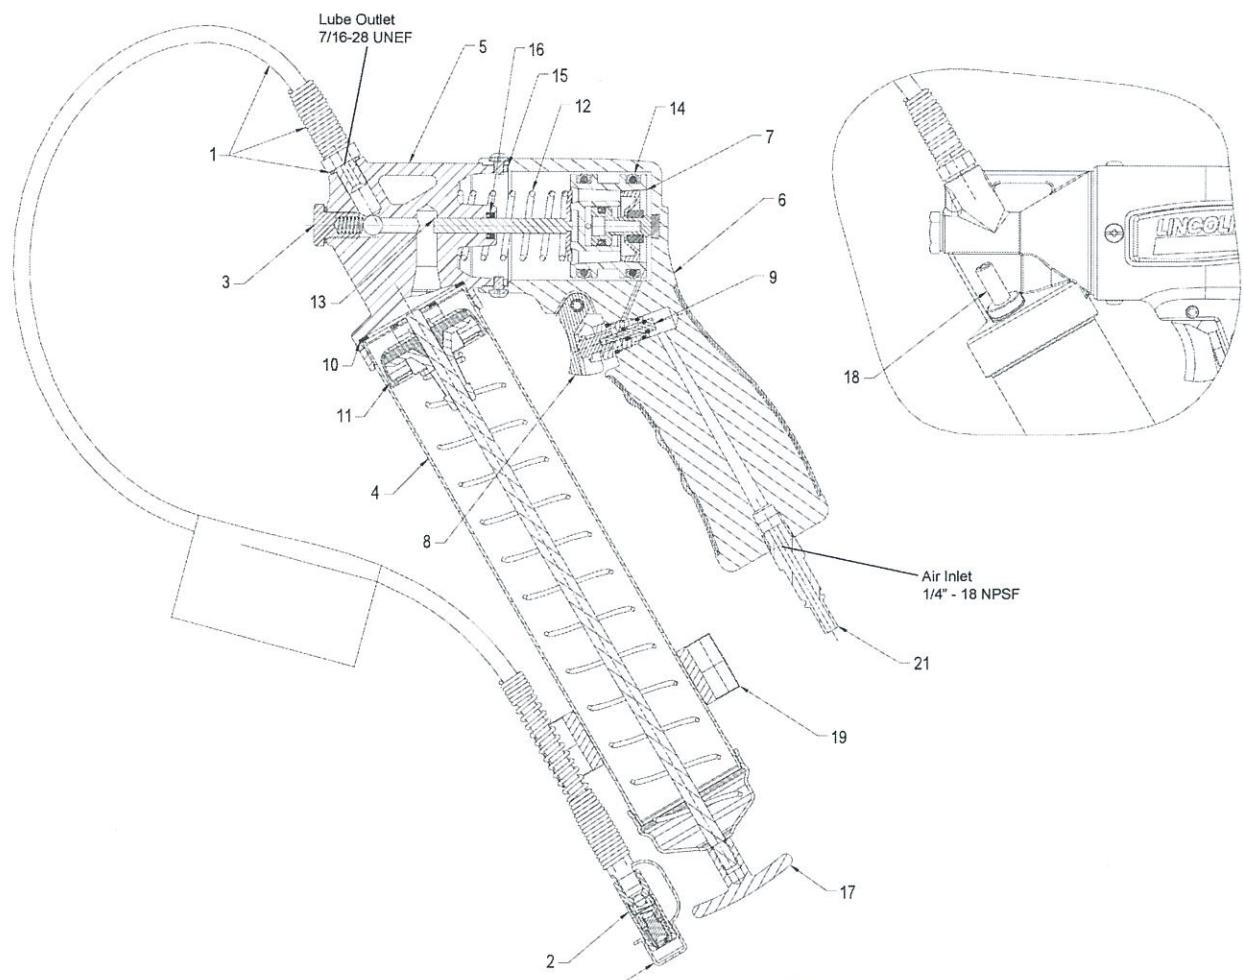

FIG. 6
- 1) Withdraw the follower rod from the grease tube assembly cap and engage it with the follower by rotating the follower handle. Exert the force on the follower handle after opening the vent/filler fitting (18) (see Fig. 6).